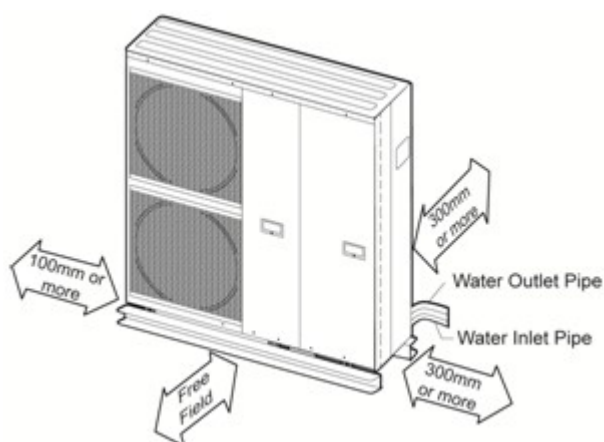

Figure 3: Minimum distances to objects to ensure adequate ventilation
- There is adequate clearance for efficient performance as shown in Figure 3 and the discharged air does not recirculate.
For adequate air flow the distances shown in Figure 3 must be observed. The free field indicates that no object will disrupt the air flow out of the unit.